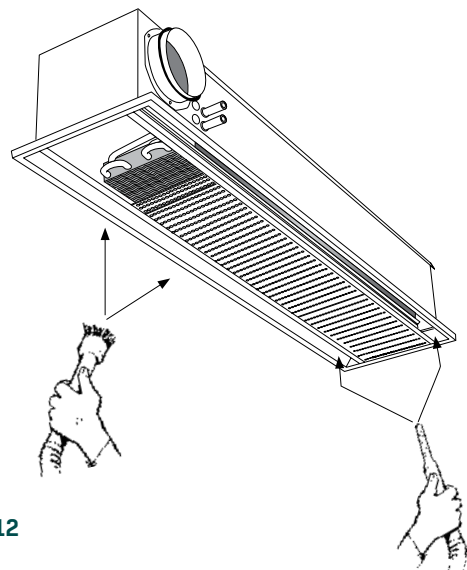

FIGURE 12
- 3) Vacuum the coil with a vacuum brush attachment every 5 - 10 years, or as needed. (See **FIGURE 12**)